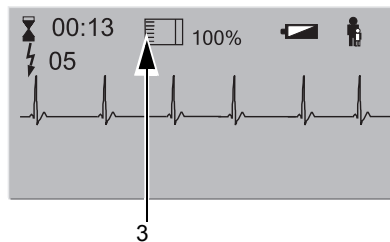

Fig. 5.1 Memory card inserted
Make sure that you only insert the card with the device turned off and in the way shown in Fig. 5.1 (shaped indent (2) facing upward). Otherwise, the card will not be detected by the device and the symbol  is not displayed.